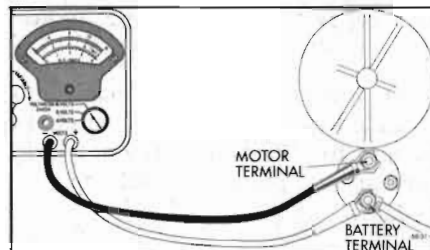

Figure 68-31—Solenoid Switch Contact Test Connections
6. With voltmeter switch turned to any scale above 12 volts, connect voltmeter negative (-) lead to the motor terminal or solenoid switch, and connect positive (+) lead to battery terminal of switch. See Figure 68-31.